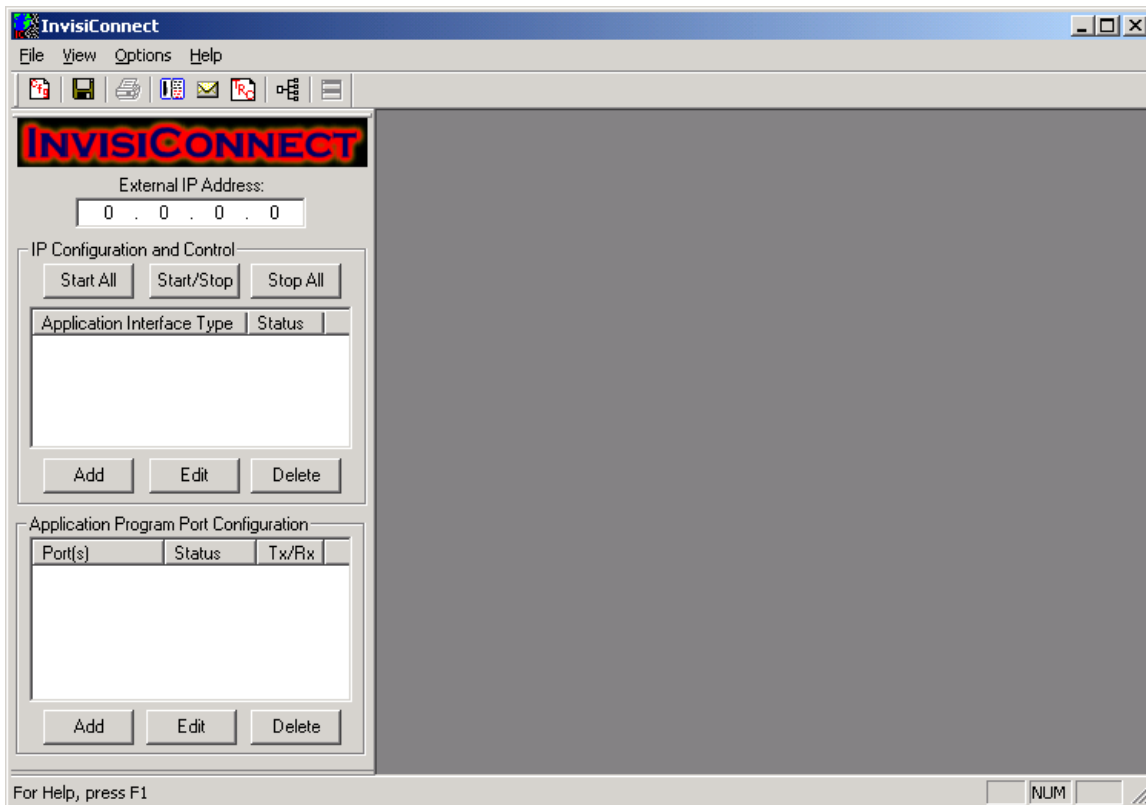

Figure 14 – InvisiConnect™ Configuration - Initial Window
3. InvisiConnect™ will automatically start after the device drivers are installed and will look similar to Figure 14.